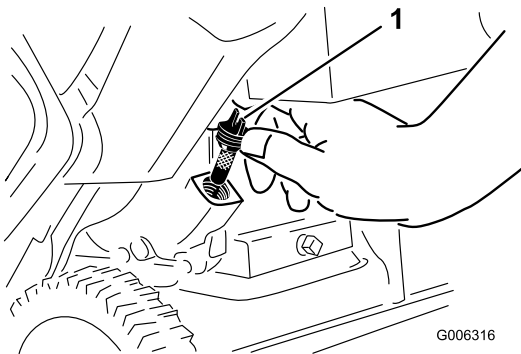

Figure 22
6. Clean around the oil-fill cap (Figure 22).
7. Unscrew the oil-fill cap and remove it (Figure 22).